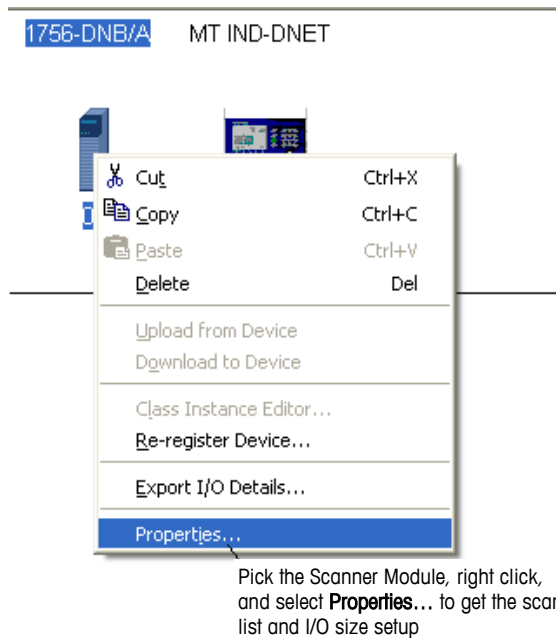

Figure 3-16: Accessing Scanner Properties
- Once the scanner has browsed the entire network, add IND Terminal to the 1756-DNB/A's scanlist by right-clicking on the scanner icon in the Graph window (note the tab at the bottom of Figure 3-16), and choosing **Properties...**